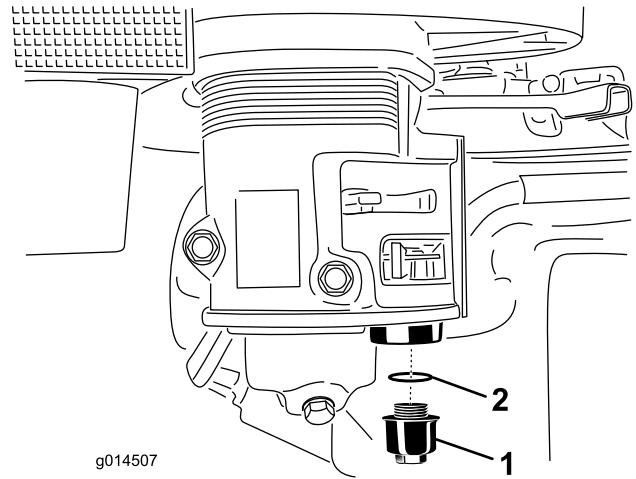

Figure 21
4. Unscrew the sediment cup (Figure 21).